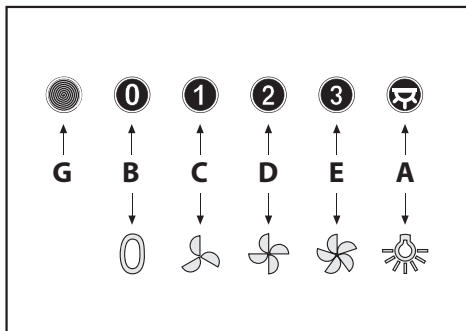

Fig.9
• **Commands mechanical (Fig.9)** the key symbols are explained below: